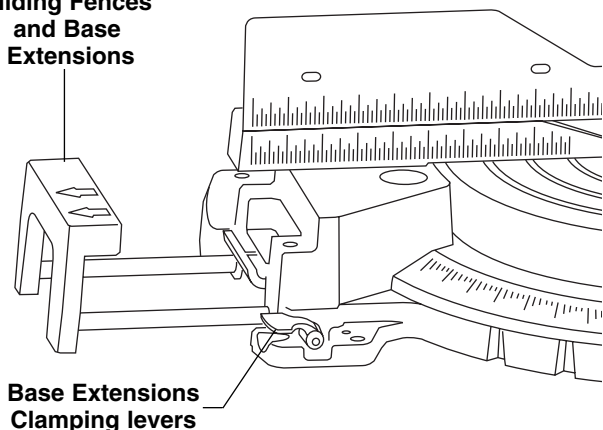

Figure 25. Sliding Fences and Base Extensions
1. Loosen the base extension clamping levers (Figure 25).